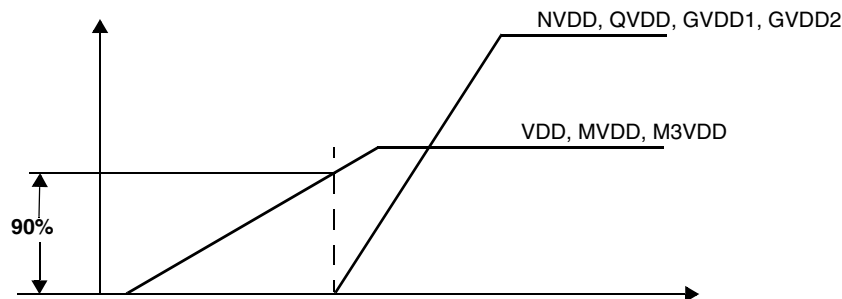

Figure 34. Supply Ramp-Up Sequence
2. After the above rails rise to 90% of their nominal voltage, the following I/O power rails may rise in any sequence (see Figure 34): QVDD, NVDD, GVDD1, and GVDD2.